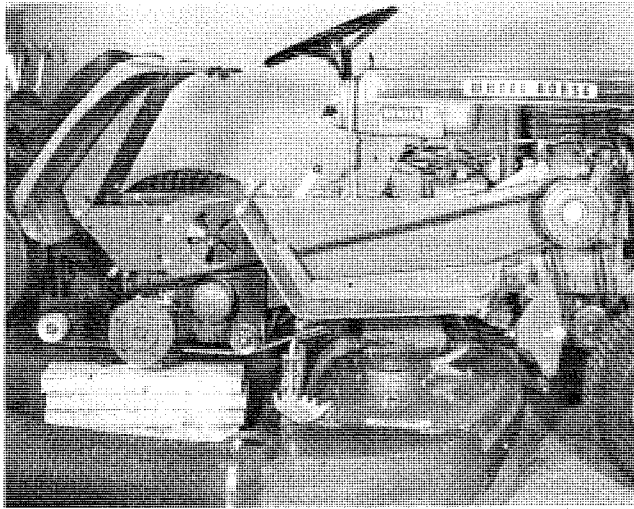

FIGURE 5
2. Relocate the R. H. tractor foot rest in the outer hole locations on footrest bracket, retaining the two (2) $\frac{5}{16}$ -18 bolts for later use. (Figure 5)
7. Slip the Drive Belt under R. H. rear tractor wheel and place on outer groove of clutch pulley, Jackshaft Pulley and under Idler Pulley as shown in Figure 5. (Wheel removed in photo for viewing purposes only.)